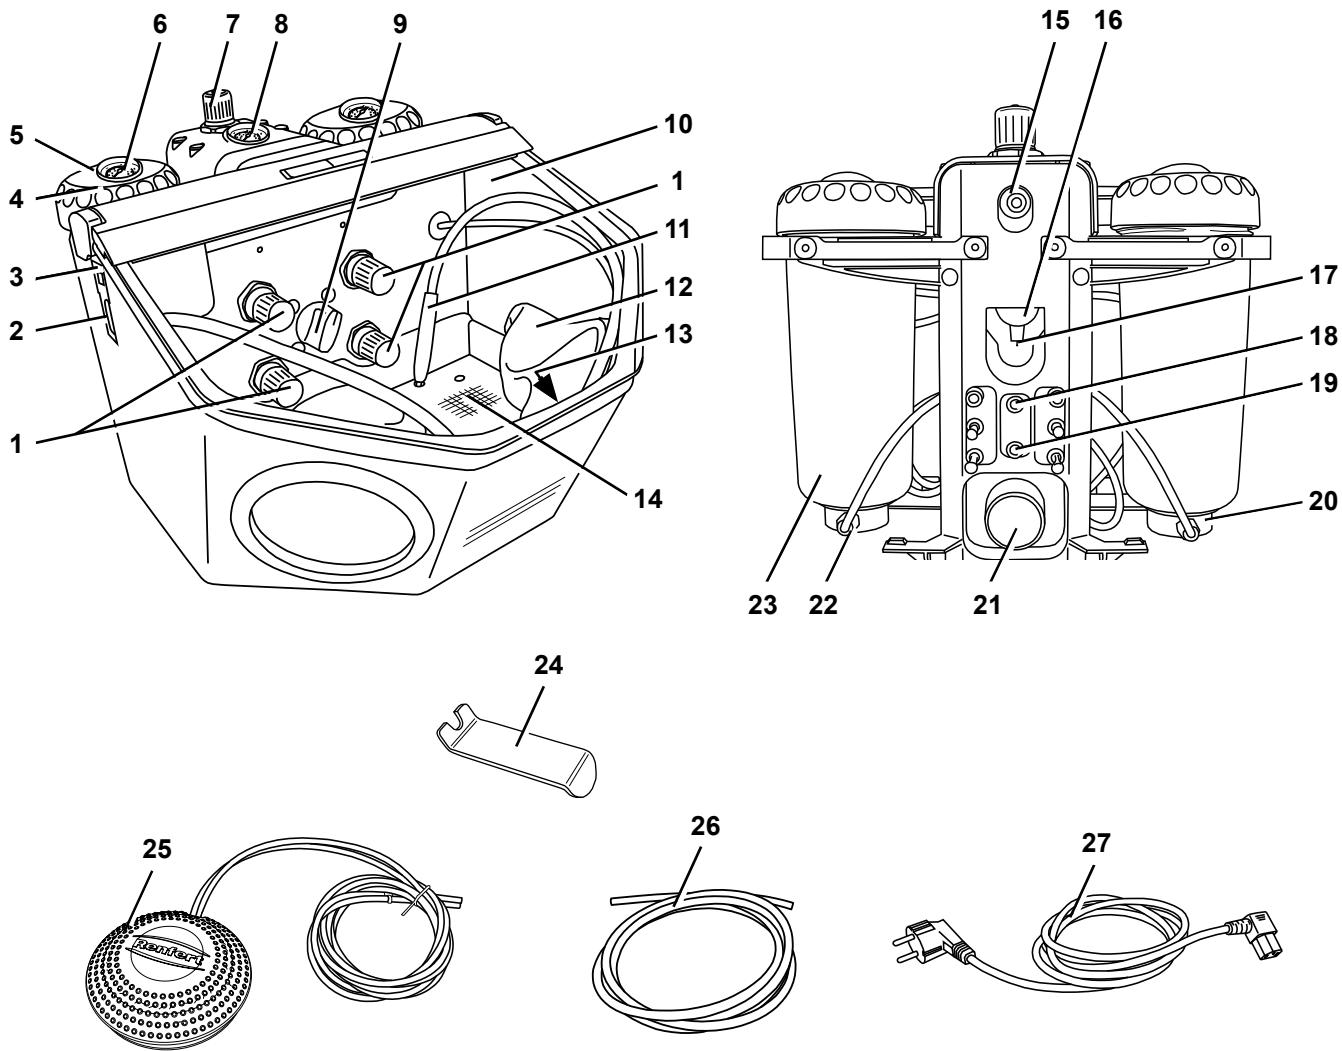

Fig. 1
- Push the compressed air tube (26) onto the tube connection point (15) as far as it will go. In doing so there will be a slight resistance to overcome.
- Check whether the pressure is at the required level (see tech. data). Display will be shown on the manometer (8, Fig. 1).
**Never press the pressure regulator (7) on the maintenance unit. This has been set and fixed to max. 6 bar in order to guarantee the best possible function of the pinch valves.**